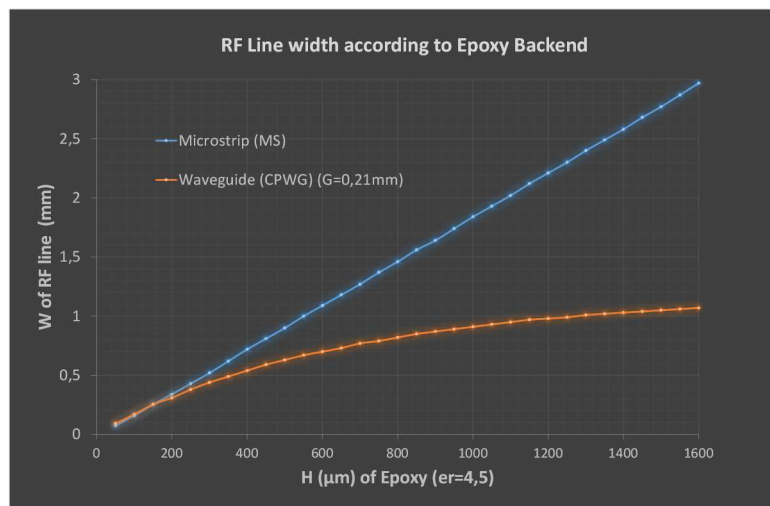

Figure 10- RF trace width relative to Epoxy stackup thickness
Figure 10 provides more details on the required trace width relative to the Epoxy thickness (H):
Nevertheless, several RF matching network components must be connected to GND, creating a parasitic CPWG area in the MS configuration (e.g. gray area in MS layout). In order to limit the influence of this area, H must be kept thin ($< 400\mu\text{m}$), such that the width of MS and CPWG traces are similar and achieve the same $50\ \Omega$ impedance (cf. Figure 10). It is also possible to update the RF signal to GND clearance value (G) for CPWG in order to get the same impedance with the same trace width between MS and CPWG configurations.